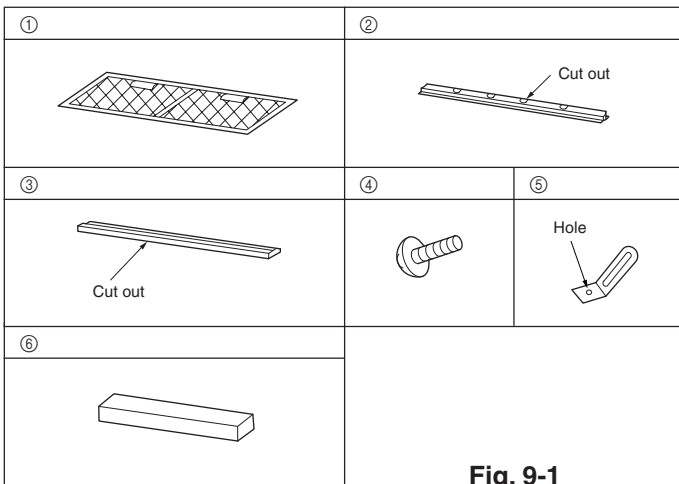

Fig. 9-1
9.1. Confirmation of enclosed parts (Fig. 9-1)
- ① Filter × 1
- ② Filter rail × 1
- ③ Filter rail × 1
- ④ ST. screw (4 × 10) × 14
- ⑤ Clamp × 2
- ⑥ Seal × 2